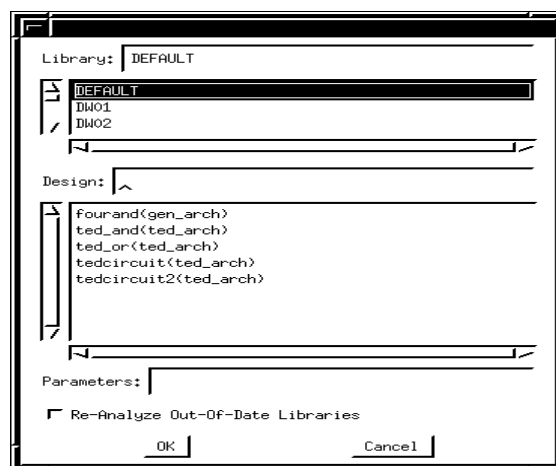

Figure 11: Elaborate Design Window.
(4) From the Synopsys Design Analyzer window select File -> Elaborate. The Elaborate Design window will appear as illustrated in Figure 11. Select Default from the list of libraries listed in the top part of the form. A list of designs will then appear. Select tedcircuit(ted_arch) from as the Design and select OK.